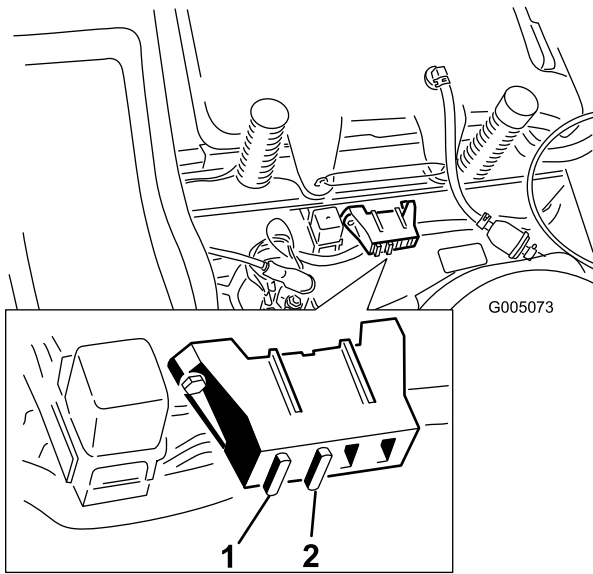

Figure 36
- Raise the seat to gain access to the fuse holder (Figure 36).
- To replace a fuse, pull out on the fuse to remove it (Figure 36).